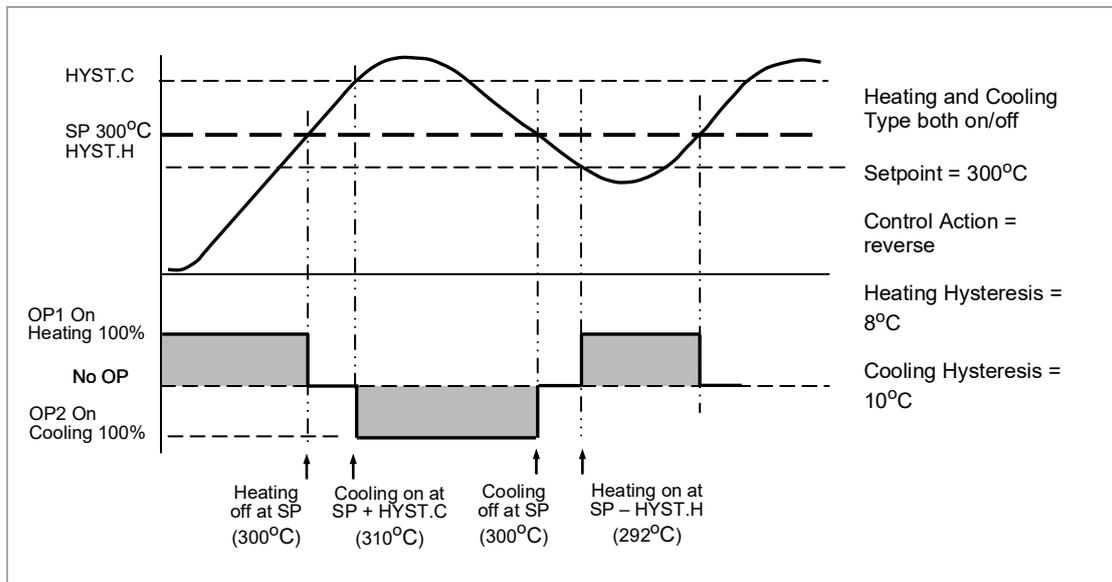
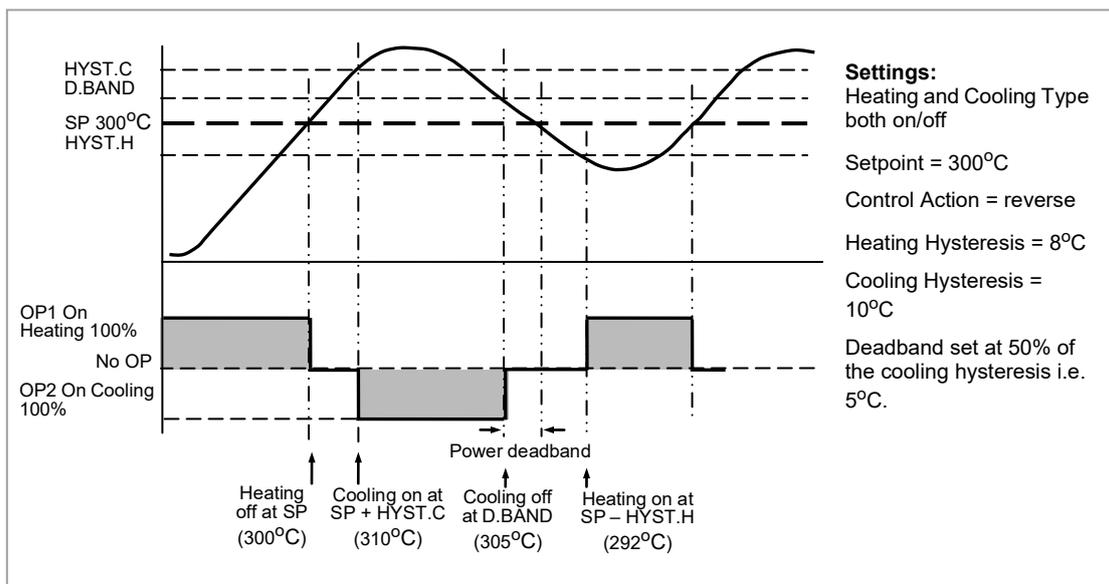

Figure 72: Deadband OFF
Figure 73: Deadband ON (set at 50% of Cooling)
**Hysteresis** applies to on/off control only and is set in the units of the PV. In heating applications the output will turn off when the PV is at setpoint. It will turn on again when the PV falls below SP by the hysteresis value. Examples of this are shown below in Figure 72 Deadband OFF and Figure 73 Deadband ON \(set at 50% of Cooling\) for a heat and cool controller.